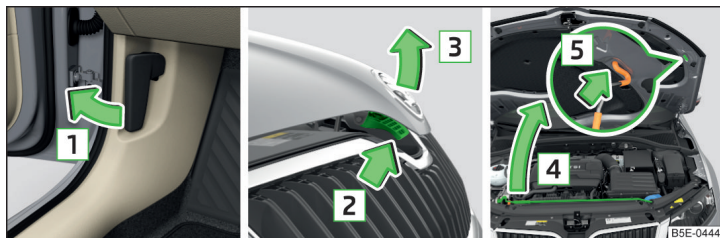

Fig. 177 Bonnet
- Pull the release lever underneath the dash panel in the direction of the arrow **1** » Fig. 177.
Never open the bonnet by the locking lever » Fig. 177.